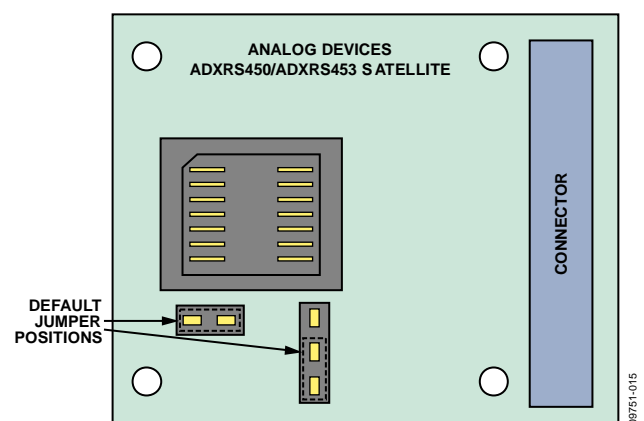

Figure 16. Default Jumper Positions
4. Ensure that the jumpers on the **ADXRS450/ADXRS453** satellite are in their default configuration, as shown in Figure 16. This sets up the board to use the on-board boost converter to generate the required high voltage supply for the device. For more information on using alternate high voltage supplies, see the **ADXRS450** and **ADXRS453** data sheets and the Alternate External High Voltage Supply section of this guide.